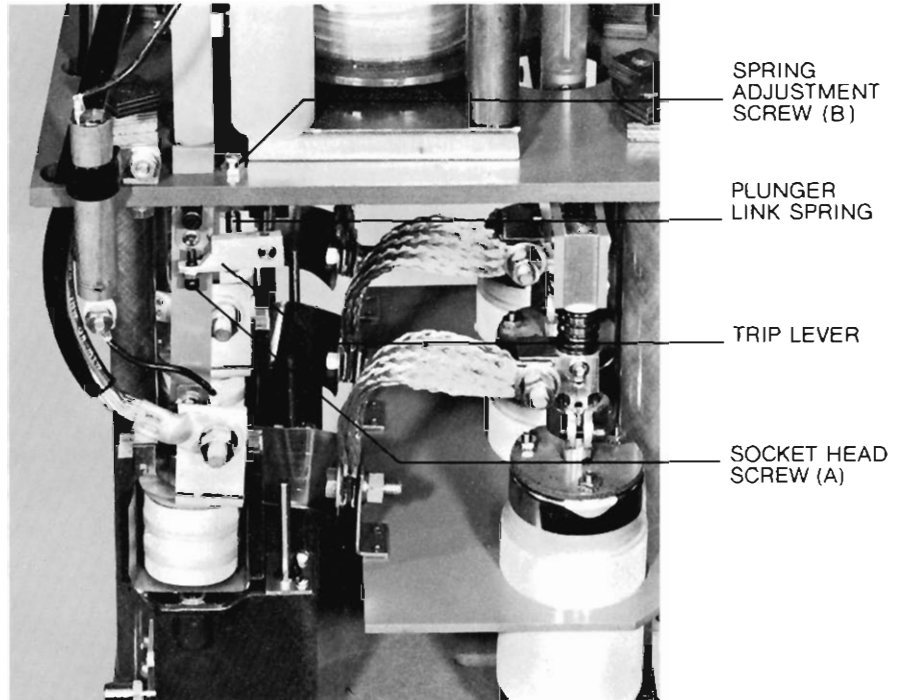

Figure 25.
With the socket head screw (A) approximately flush with the trip lever and the mechanism in the closed position, hold down the plunger link and turn the screw until mechanism trips (Figure 25). Now, turn the screw an additional two full turns and lock screw in place with the hex nut. Repeat the procedure on the other two phases.
The minimum trip current can be raised or lowered to fall within tolerance limits by adjusting the tension on the plunger link spring (Figure 25). Lengthening the spring increases the minimum trip current. Adjust the length of the spring with the spring adjustment screw (B) and lock with the hex nut.